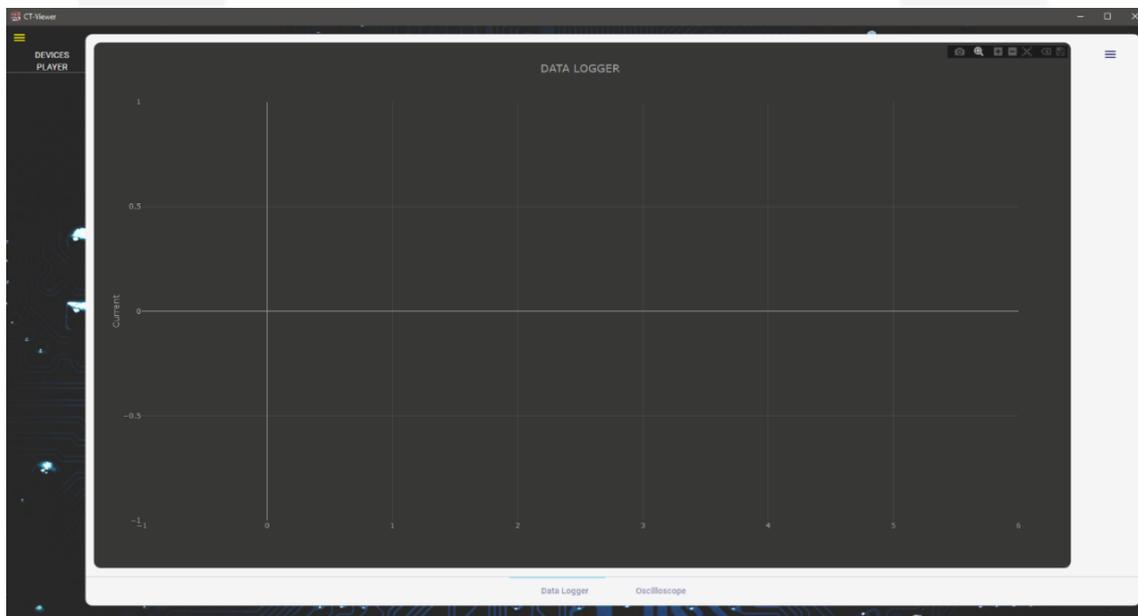
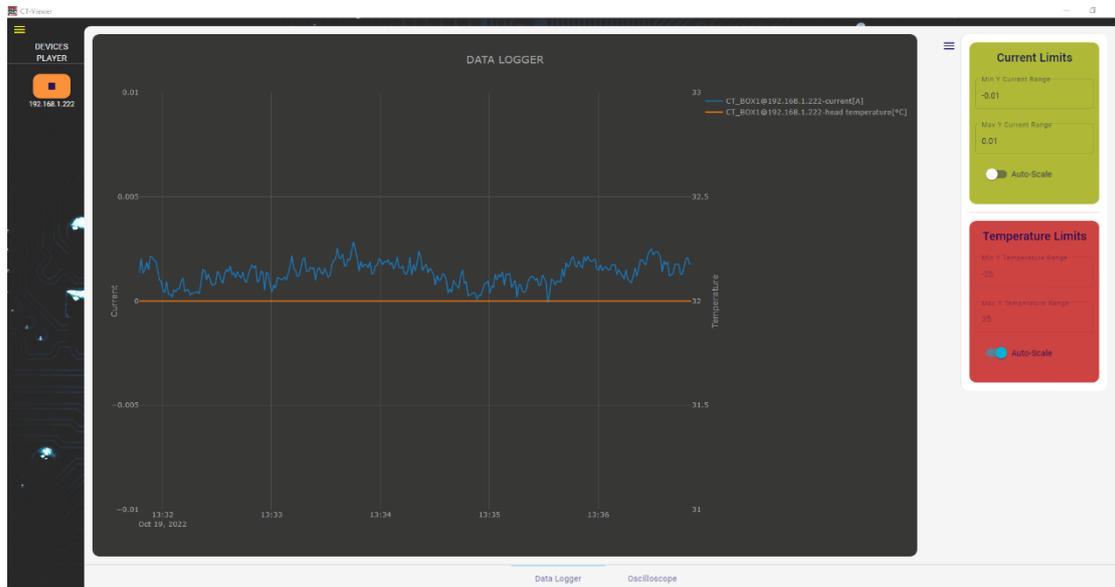

Figure 2: CT-BXO Viewer's Main window.
Figure 10: Example of acquisition in Data-Logger mode (one unit has been added).
In the CT-BOX Viewer main window (**Figure 2**), it is possible to add one (or more) CT-BOX device(s) by means of the yellow hamburger menu at the left upper corner. At the bottom of the window instead, you can select the CT-BOX viewer mode, namely Data-Logger (set by default at the opening) or Oscilloscope. The hamburger menu at the right-upper side gives access to either the Current and Temperature Limits in Data-Logger mode (see **Sec. 2.3.1**), or the Channel and Trigger options when in Oscilloscope Mode (see **Sec. 2.3.2**). Furthermore, the horizontal stripe menu (at the right upper side of the viewer) allows an easy access to the main visualization options (e.g. zoom, autoscale, pan) and saving options (e.g. save a screenshot of the viewer as png, export a CSV) as well.
N.B. Once back on the main window by clicking on an empty space (see **Figure 2**), the highlighted mode at the bottom of the viewer must agree with the one just selected in the *Acquisition* tab of the *Settings*.
Once at least one unit has been added and configured, from the Viewer Main Window (see **Figure 2**) the user has to select either Data-Logger or Oscilloscope viewer mode ensuring that it agrees with the one selected in the **ACQUISITION** tab in the *Settings* menu (**Sec. 2.2.1**).
When the CT-BOX unit is connected and configured as Data-Logger mode, the plotter on the Viewer Main Window shows the acquired current (referred to the left y-axis) and the temperatures (referred to the right y-axis) depending on the previous configuration. As already mentioned in **Sec. 2.1**, by clicking on the right hamburger icon, a column panel on the right opens: the user can easily set both the *current limits* (upper yellow box) and *temperature limits* (lower red box) used in the plot or use the auto-scale function (see **Figure 10**). To quickly apply the auto-scale function, double-click on the plotter (alternatively use the horizontal stripe menu, **Figure 2**); to come back to the previous view, double-click again on the plotter.